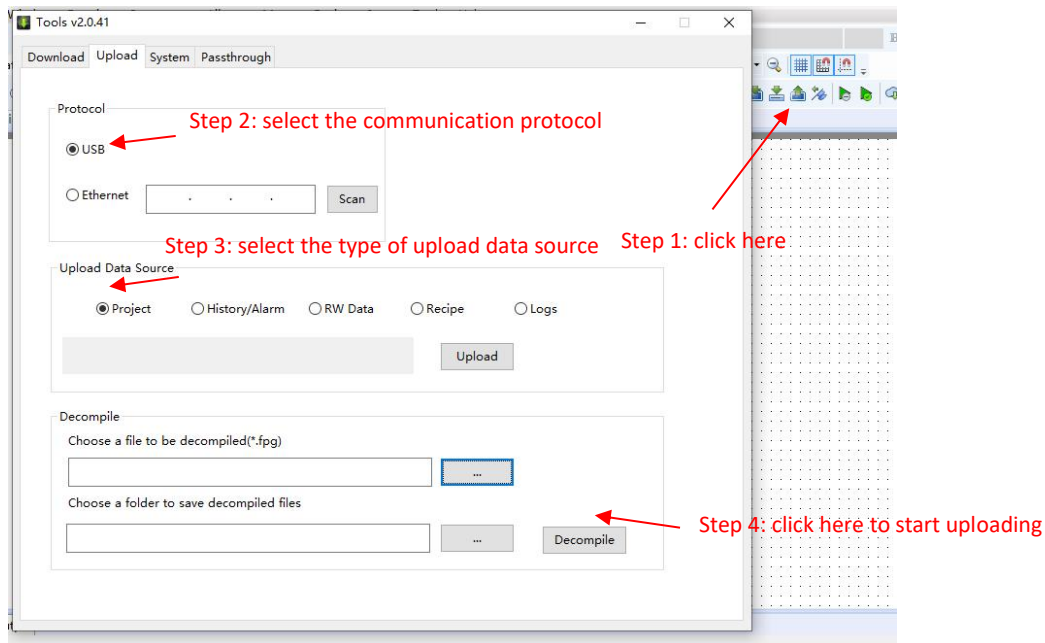

Fig. 20
①Click the "Upload" icon on the tool bar, set the communication mode, select to upload the project, and start to upload the project, as shown in Fig. 20.